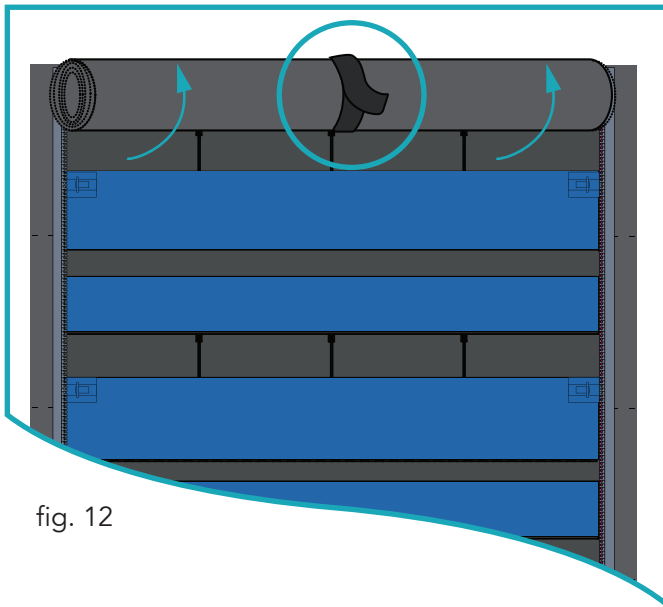

fig. 12
- To access the battery rack, unzip the two front zippers and roll the flap up to the top. Secure with the provided 2" Velcro straps (fig. 12)